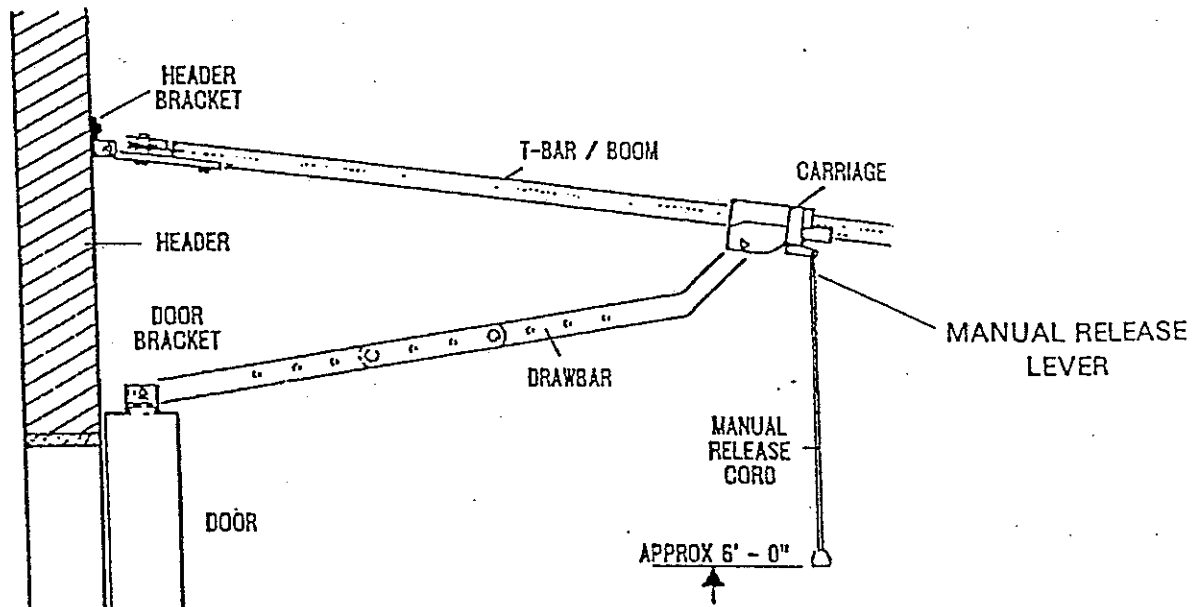

FIGURE 4
2. To reconnect the opener, place the manual release lever (Figure 4, Page14) in the horizontal position and run the opener. It will automatically reconnect.